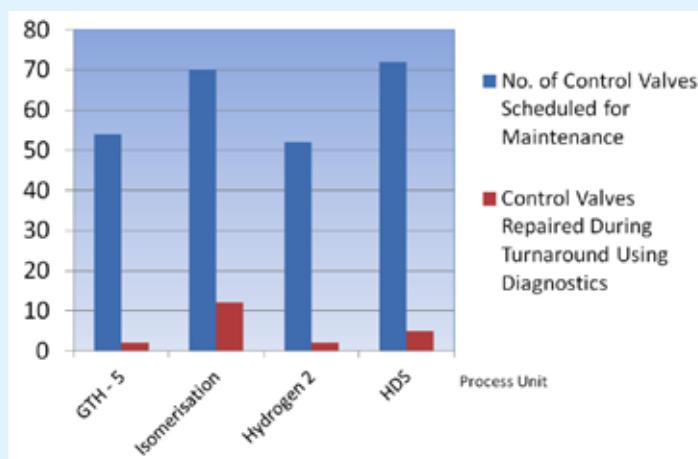

Fig 3: No. of scheduled vs. actual control valves repaired during a turnaround
**4. Device Diagnostics** – Management has become more dependent on the information from their field devices because it has been proven to be reliable. This information is now used to analyze and troubleshoot potential problems before they turn into major problems (Figure 3).
Fig 3: HART device status delivers important information, such as Device Malfunction, Device In-simulation and Device Variable Saturated. Fig 2 and 3 images courtesy of Honeywell Process Solutions.
control valves scheduled for maintenance during a turnaround (Figure 3) was reduced from 50-70 valves (depending on the operating unit) to five or less! This reduction didn't just deliver big benefits with reduced cost, it also reduced the number of required days for the turnaround.